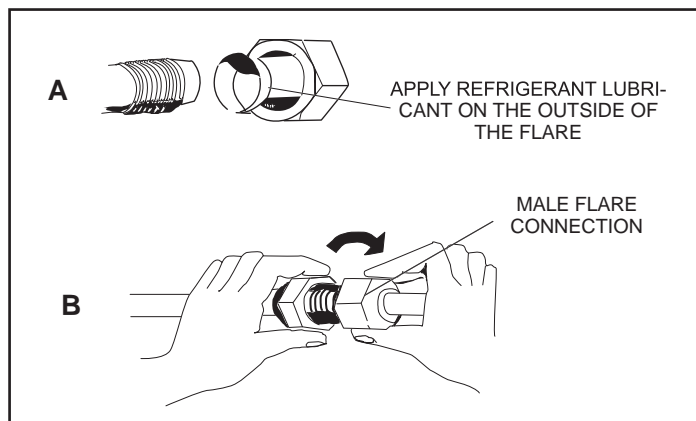

Figure 5. Making Connections at Indoor Unit (Male to Female Connection)
5. Apply recommended HFC-410A refrigerant lubricant to the outside of the field-provided flared line sets (figure 5 -- A).
6. Align the union tube and flared refrigerant lines with each other, then tighten the flare nuts lightly at first to obtain a smooth match (figure 5 -- B).